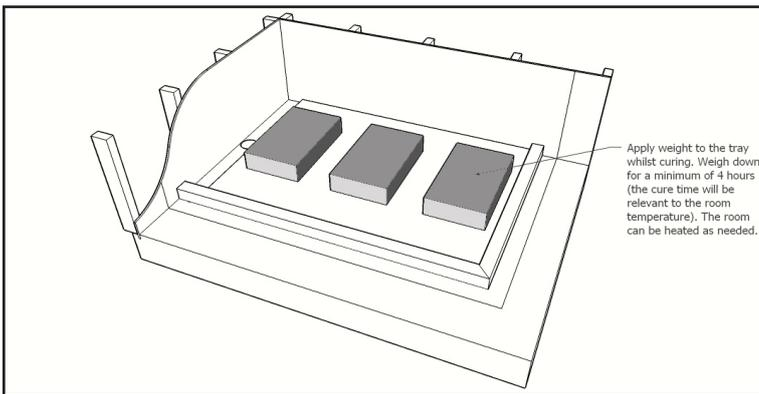

Fig. 6.1: Apply weights to the base whilst the adhesive cures.
- a)** Once the adhesive bed is applied, fit the base back into place and press firmly over the entire surface ensuring 100% coverage. Weight the base and check level again before leaving to cure. (See Fig. 6.1)